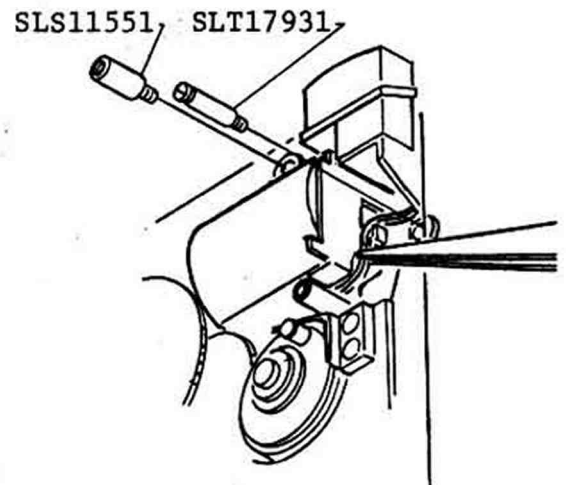

Fig. 91-1
- a. Remove SLS11551 and SLT17931 Screws as shown in the Fig. 91-1.
- d. Put in order brown and white lead wires as shown in the Fig. 91-1 and do not make it touching to the release bar.